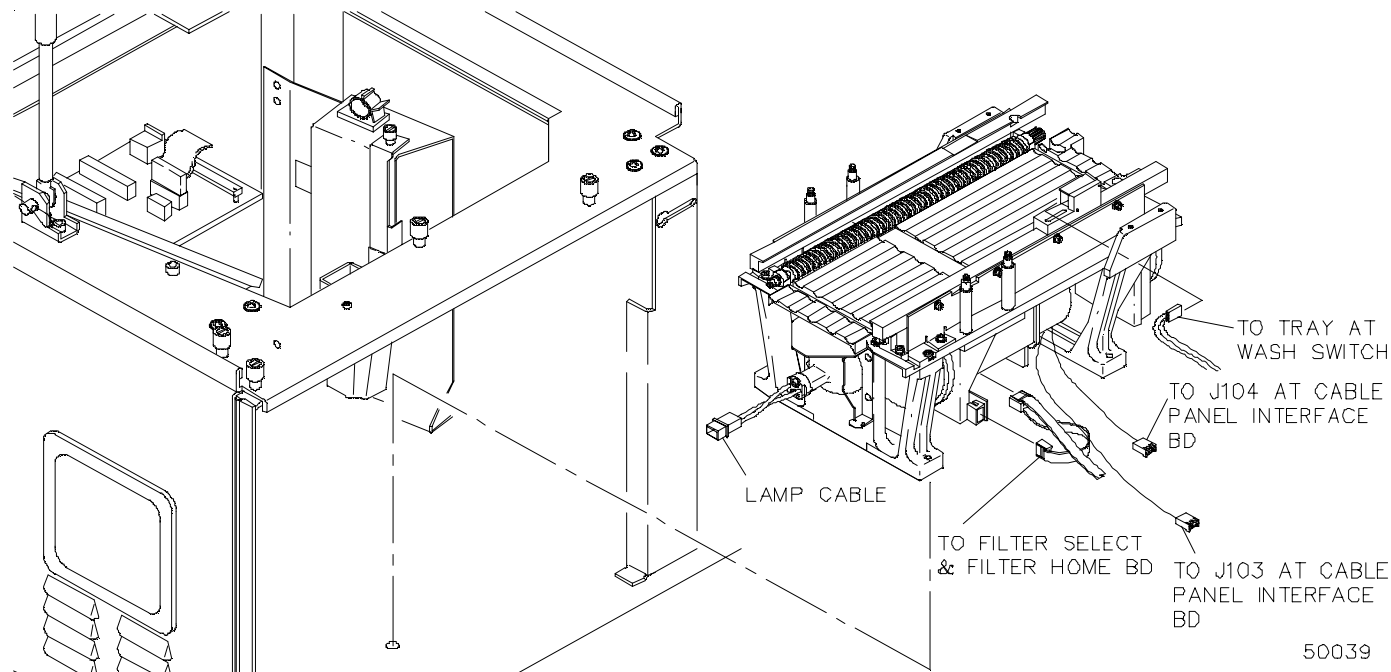

Figure 4-39. Main Transport Assy
15. Remove assy mounting hardware from four places (**Figure 4-39**).